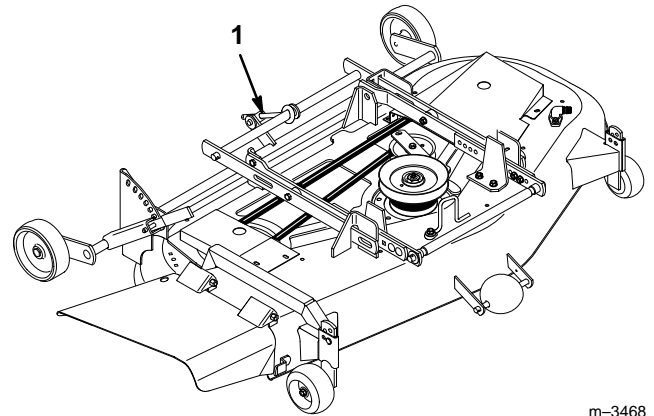

Figure 15
4. Front-to-rear adjustment is made by turning the adjusting nut (Fig. 15) on the back of the mower. To raise the front of the mower, turn the adjustment nut clockwise. To lower the front of the mower, turn the nut counterclockwise.